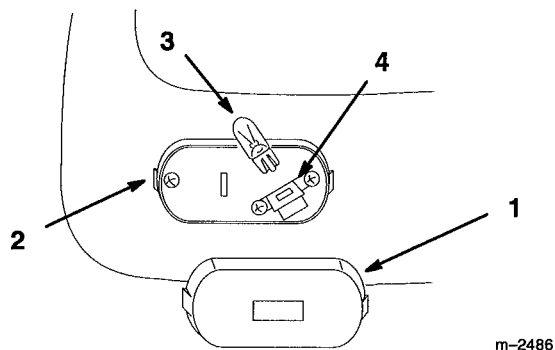

Figure 36
2. Inserting a screwdriver into slot and twist to remove lens (Fig. 36).
1. Align the bulb base with socket and push into position (Fig. 36).
2. Align and snap the lens onto the base (Fig. 36).